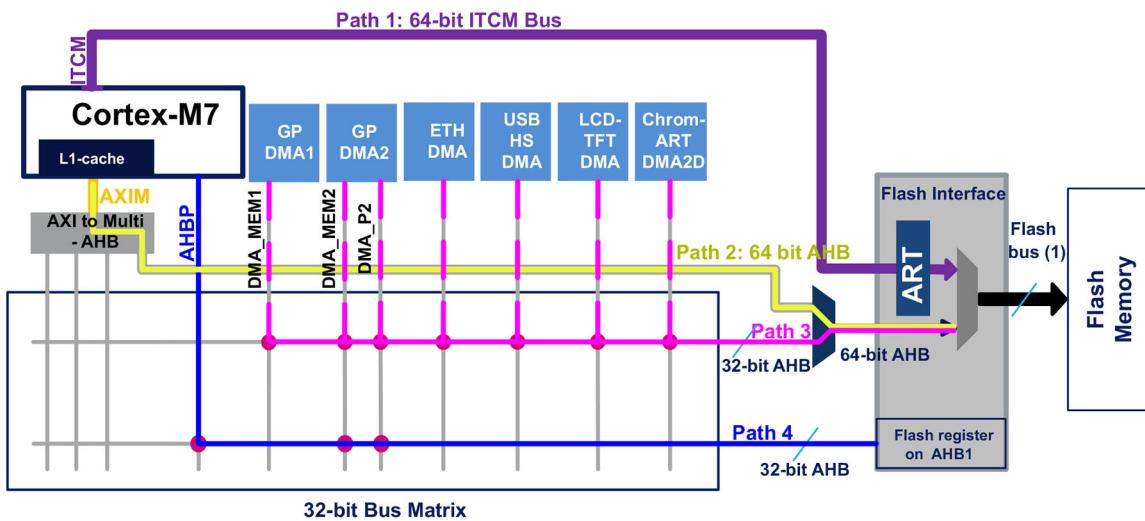

Figure 21.3: How the flash memory is accessed in an STM32F7 MCU
Looking at **Figure 21.3**¹⁰, you can see that the Cortex-M7 core has three distinct paths to access the flash controller (and so the flash memory). Before we describe these three paths, it is important to note a fundamental thing: the Cortex-M7 core already provides an integrated L1-cache. This cache has two dedicated cache pools, each one up to 64KB wide, one dedicated to the *I-Bus* and one for the *D-Bus*: this differs from other STM32 families, where data and instruction caches are implemented exclusively inside the ARTTM Accelerator.
- **A 64-bit ITCM interface:** it connects the embedded flash memory to the Cortex-M7 via the ITCM bus (Path 1 in Figure 21.3) and it is used for the program execution and data read
- **A 64-bit AHB interface:** it connects the embedded flash memory to the Cortex-M7 via the AXI/AHB bridge (Path 2 in Figure 21.3). It is used for the code execution, read and write accesses. The flash memory is accessible by the CPU through AXI/AHB bridge starting from the address 0x0800 0000 and it is cacheable (that is, it can use the L1-cache) reaching the same *0-wait* performances of the ART™ Accelerator. The L1-cache in Cortex-M7 cores can range from 4KB to 16KB. STM32F7/H7 provide two cache pools, one for the instructions (*I-Bus*) and one for the literal pools (*D-Bus*), each one up to 16KB wide. The L1-caches on all Cortex-M7 cores are divided into lines of 32 bytes. Each line is tagged with an address. The data cache is 4-way set associative (four lines per set) and the instruction cache is 2-way set associative. This is a hardware compromise to keep from having to tag each line with an address.
- **A 32-bit AHB interface:** it is used for DMAs transfers from the flash memory (Path 3 in Figure 21.3). The DMAs flash memory access is performed starting from the address 0x0800 0000.
A fourth path exists (see Figure 21.3) through the *Advanced Bus Peripheral* (AHBP) interface, and it is reserved to the access to flash peripheral registers inside the 0x4000 0000 peripheral mapped region.